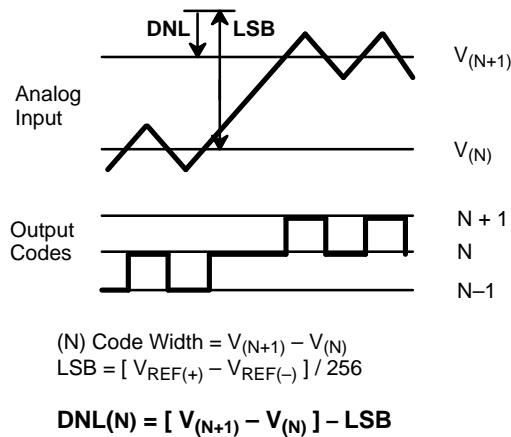
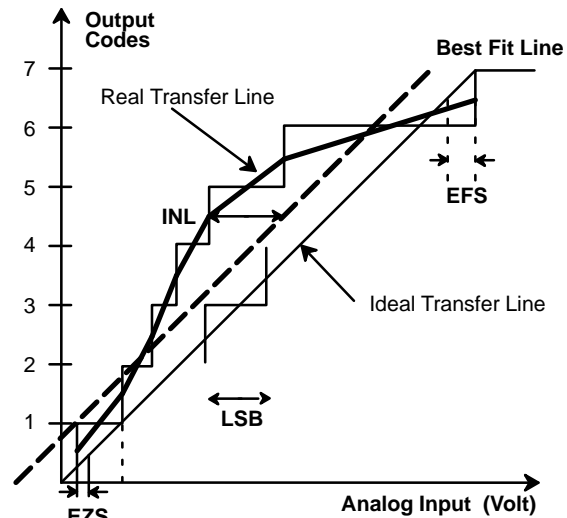

Figure 3. DNL Measurement
Figure 4. INL Error Calculation
- 1 Tester measures code transitions by dithering the voltage of the analog input (VIN). The difference between the measured and the ideal code width ($V_{REF}/256$) is the DNL error (*Figure 3.*). The INL error is the maximum distance (in LSBs) from the best fit line to any transition voltage (*Figure 4.*). Accuracy is a function of the sampling rate (F_S).
Figure 4. gives a visual definition of the INL error. The chart shows a 3 bit converter transfer curve with greatly exaggerated DNL errors to show the deviation of the real transfer curve from the ideal one.